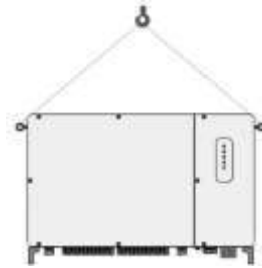

Fig. 4-8 Hoist the inverter
- 3) Hoist the inverter, and stop to check for safety when the inverter is 100 mm above the ground (Fig. 4-8). Continue hoisting the device to the destination after ensuring the safety.